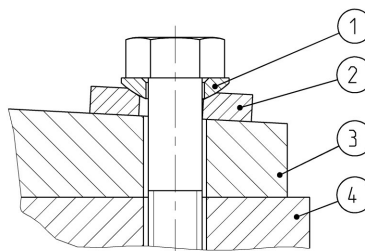

Fig.43: Spherical washer-conical seat combination
- For the mechanical mounting of the screw compressor on the screw compressor package, an angle-compensating support such as a spherical washer-conical seat combination according to DIN 6319 has to be used, refer to Figure 43, Page 167. This spherical washer-conical seat combination is delivered with the compressor.